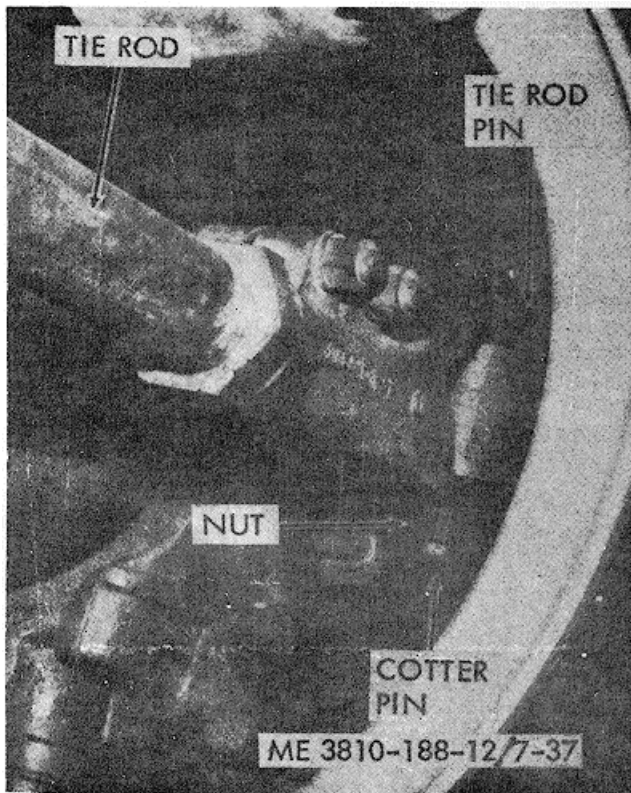

Figure 7-37. Tie rod, removal and replacement.
(2) Replacement. Refer to figure 7-37 and replace the tie rod.